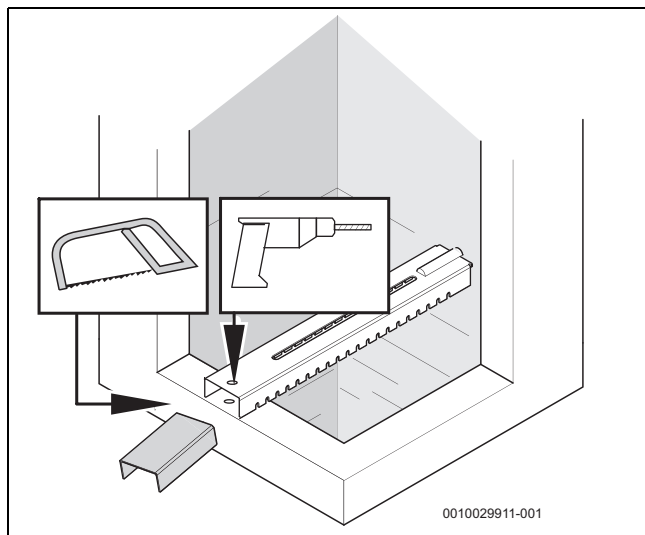

Fig. 9 Cutting the support bar
- ▶ Cut the support bar to fit the chimney as in fig. 9